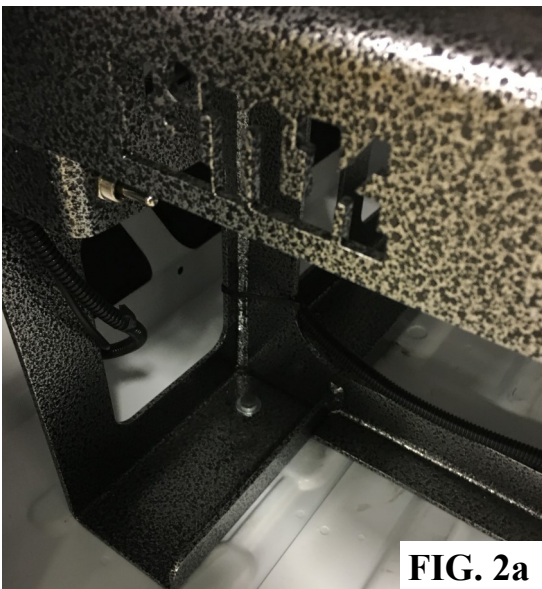

FIG. 2a
6.2 Set the main rear weldment in place. Center it about the 4 cargo loop holes. Loosely install the four supplied 8mm bolts and washers. Square the rear section with the rear of the van and tighten bolts. DO NOT OVER TIGHTEN. (FIG. 2a & 2b)